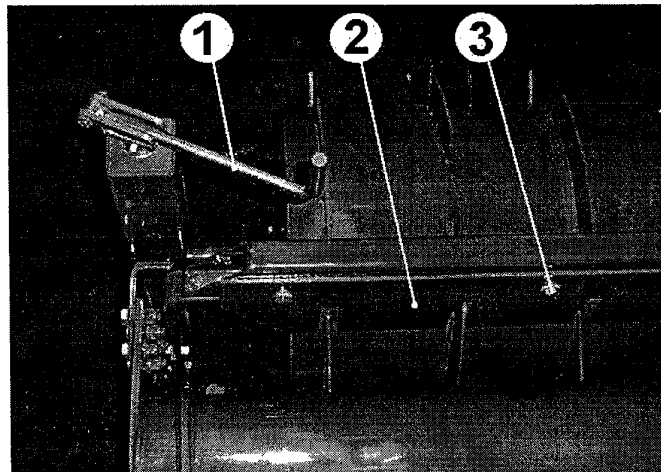
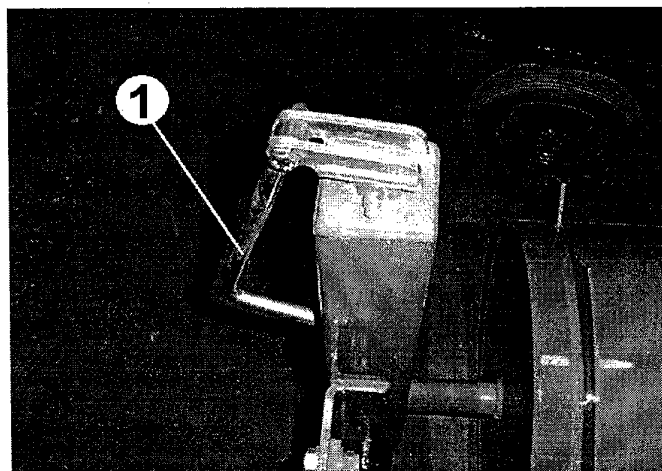

Fig 3
Fig 3a
The depth roller controls the depth at which the machine digs. Two depth handles, one either side of the depth roller, adjust the depth roller to achieve the required digging depth. To adjust, swing the handle (item 1, fig 3) to its working position (see fig 3) and rotate the handle until the required depth is achieved. When adjusting the depth roller always adjust the roller equally to achieve an even dig; an indicator on the front of the adjuster helps to achieve this. When not in use the handle (item 1, fig 3a) must be in its storage position (see fig 3).
The depth roller has a scraper fitted to keep the roller clean; the scraper (item 2, fig 3) is adjustable. To adjust, slacken the retaining bolt (item 3, fig 3) and slide the scraper to the required position.